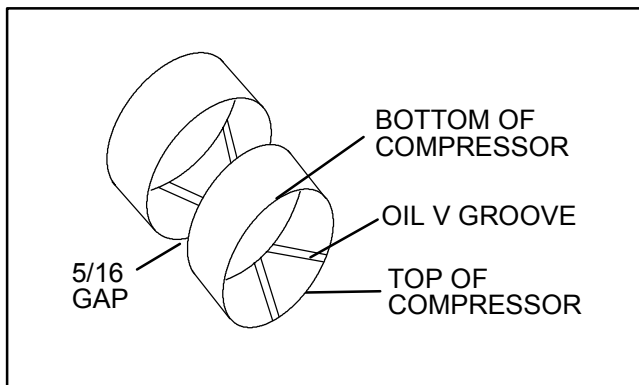

Figure 3-14. Seal End Main Bearings
- a. When installing new seal end main bearings the oil V grooves are oriented towards the top of the compressor with oil V grooves pointing to each other. When installed, there must be a 5/16 inch (7.93 mm) gap between the two bearings (See Figure 3-14).